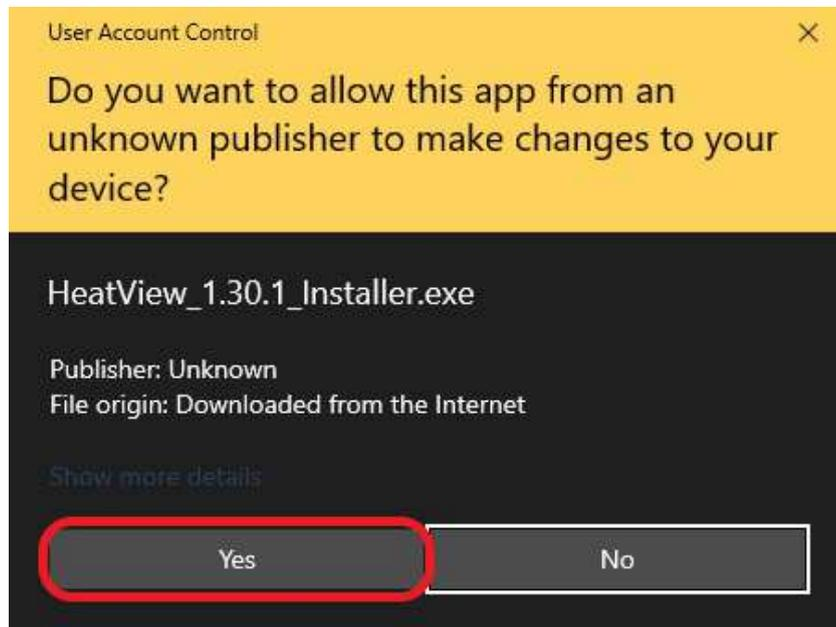

Figure 4: Installation – ‘User Access Controls’ window
- Figure 4 below, requesting administrator level permissions to proceed. If you have ‘User Account Controls’ turned off, you might not see this pop-up. You must either click ‘YES’ or provide the installation with administrator authorization in order to proceed.